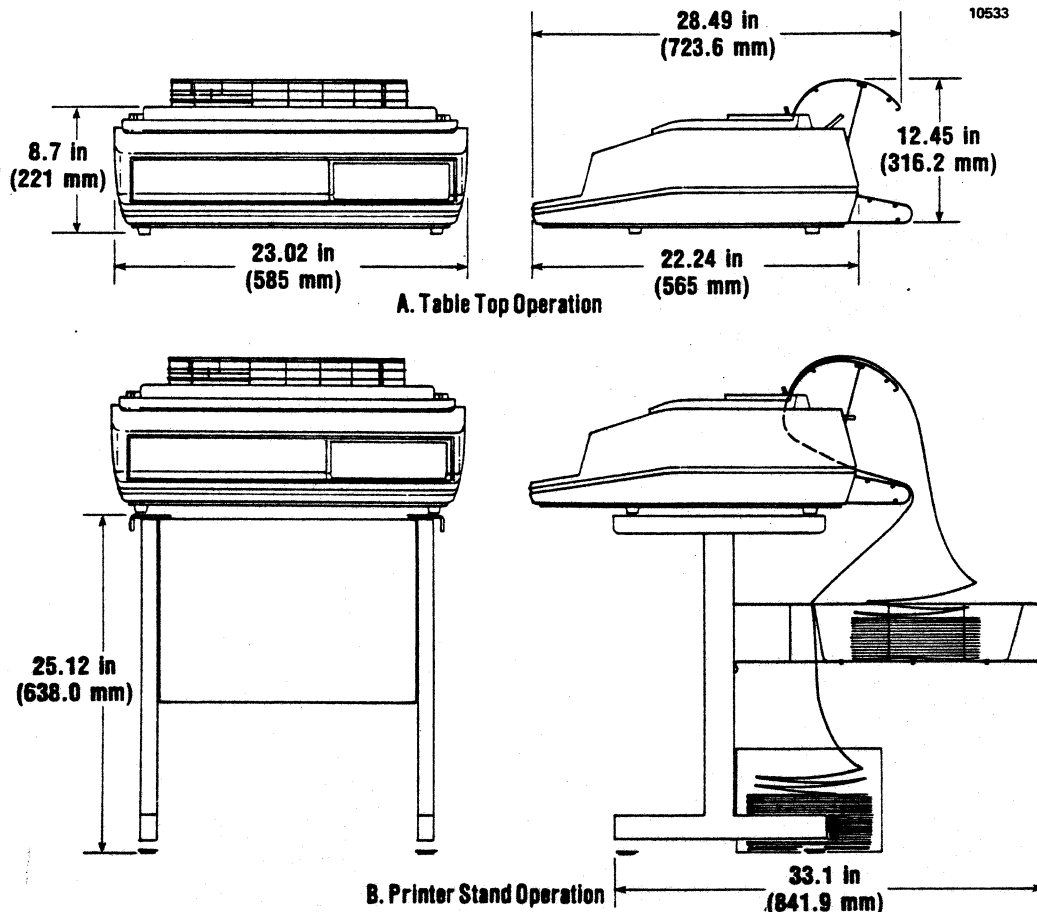

Figure 7-1 Printer Dimensions
**PRINTER DIMENSIONS**—Refer to Figure 7-1.